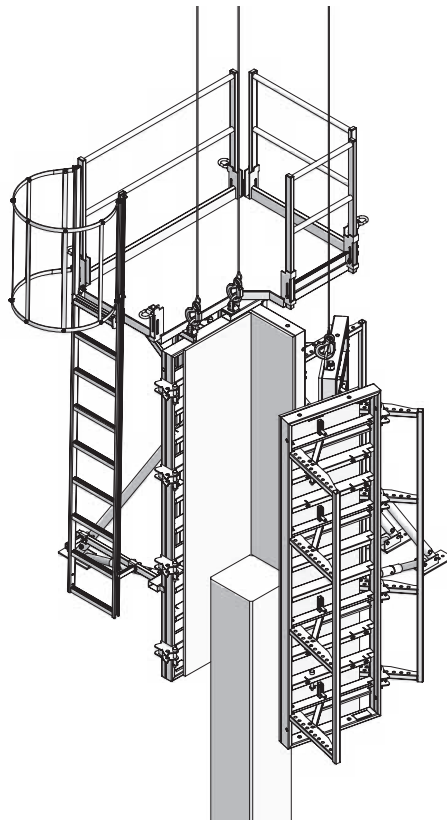

Fig. 13.3
1. Attach the crane sling to the transport devices (Fig. 13.3).